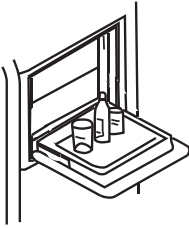

Fig.2-9
- Do not remove the inner cover of the home bar (Fig.2-9). The home bar will not operate if the cover has been removed.